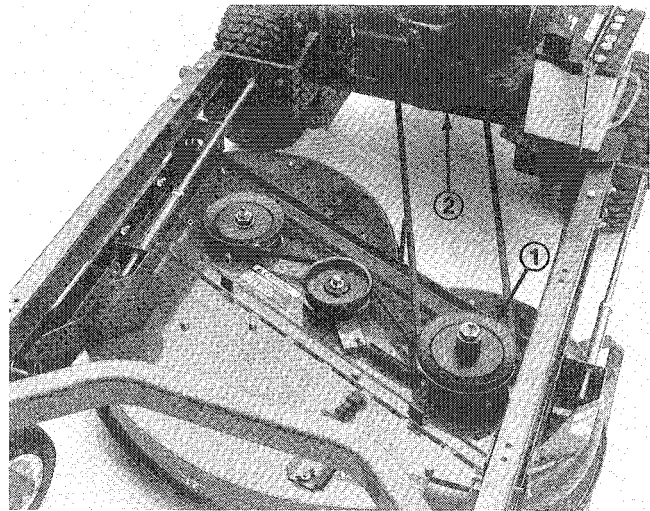

Figure 3
1. Route belt around deck drive pulley and engine clutch pulley (Fig. 3)